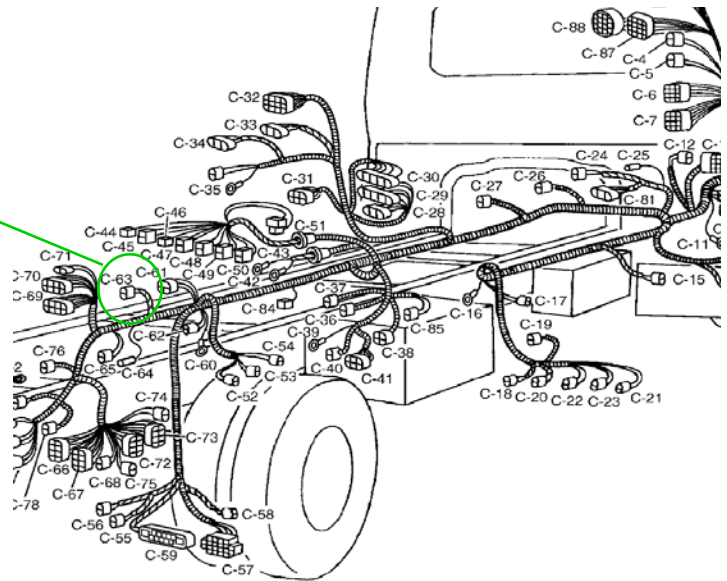

Fig. 5
4. Connect the PTO magnetic valve to the chassis wiring harness connector located in the left frame rail near the transmission. See Figure 5.